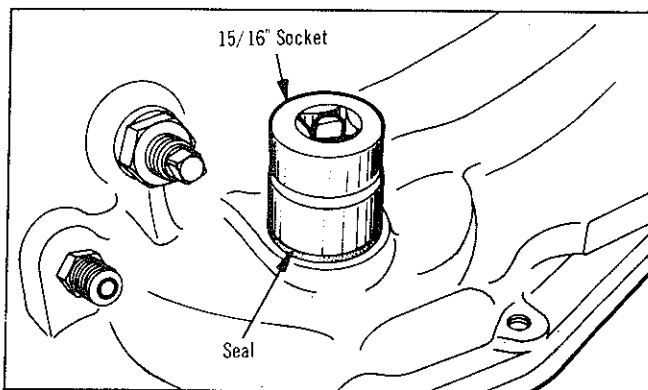

Fig. 29—Installing valve body manual lever shaft oil seal
(1) Raise vehicle on a hoist.
(2) Loosen oil pan bolts, tap the pan to break it loose allowing fluid to drain, then remove oil pan.
(3) Disconnect throttle and gearshift linkage from levers on the transmission. Loosen clamp bolts and remove the levers.
(4) Place a drain pan under transmission, then remove the hex-head valve body to transmission case bolts. Hold valve body in position while removing the bolts.
(5) While lowering valve body down out of transmission case, pull it forward out of the case. If necessary, rotate propeller shaft to align parking gear and sprag to permit knob on end of control rod to pass the sprag.
(6) Remove accumulator piston and spring from transmission case. Inspect piston for nicks, scores and wear. Inspect spring for distortion. Inspect ring for freedom in piston grooves and wear or breakage. Replace parts as required.
(7) If valve body manual lever shaft seal requires replacement, drive it out of the case with a punch.
(8) Drive a new seal into the case with a suitable size socket and hammer (Fig. 29).